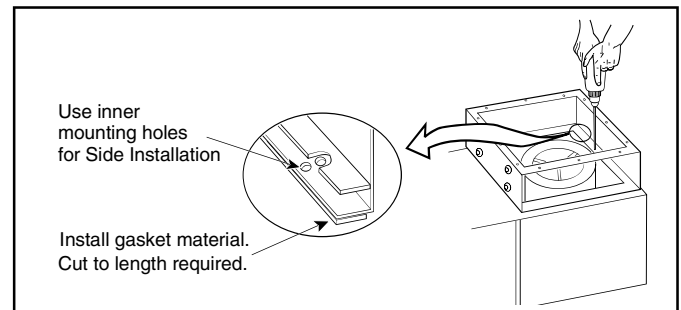

Figure 21 Side Installation Details
2. Install the self-adhesive gasket material on the side of the air cleaner cabinet flange that will mate with the indoor unit. This flange has a double set of holes. See Figure 21.
10. Securely fasten the unit using the self-tapping sheet metal screws provided. See Figure 21.